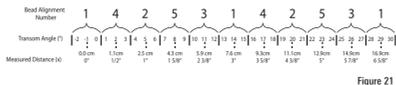
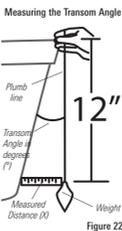

Figure 21
Figure 22
- 1a. If you already know your transom angle, refer to the chart below for the initial position to use to set the ratchets (Figure 21). If your transom is angled at 14 degrees (a common transom angle for many boats) use position 1 for the ratchets. In either case, go to step 2.
- 1b. If you do not know your transom angle, measure it using a plumb line (weighted nylon string or monofilament line) exactly 12 inches long. Hold the top of the plumb line against the top of the transom with your finger, and wait until the line hangs straight down (Figure 22). Using a ruler, measure the distance from the **bottom** of the plumb line to the back of the transom, then use the chart (Figure 21).
NOTE: It is important to take your measurement in the location shown in Figure 22, from exactly 12 inches down from the top of the transom.